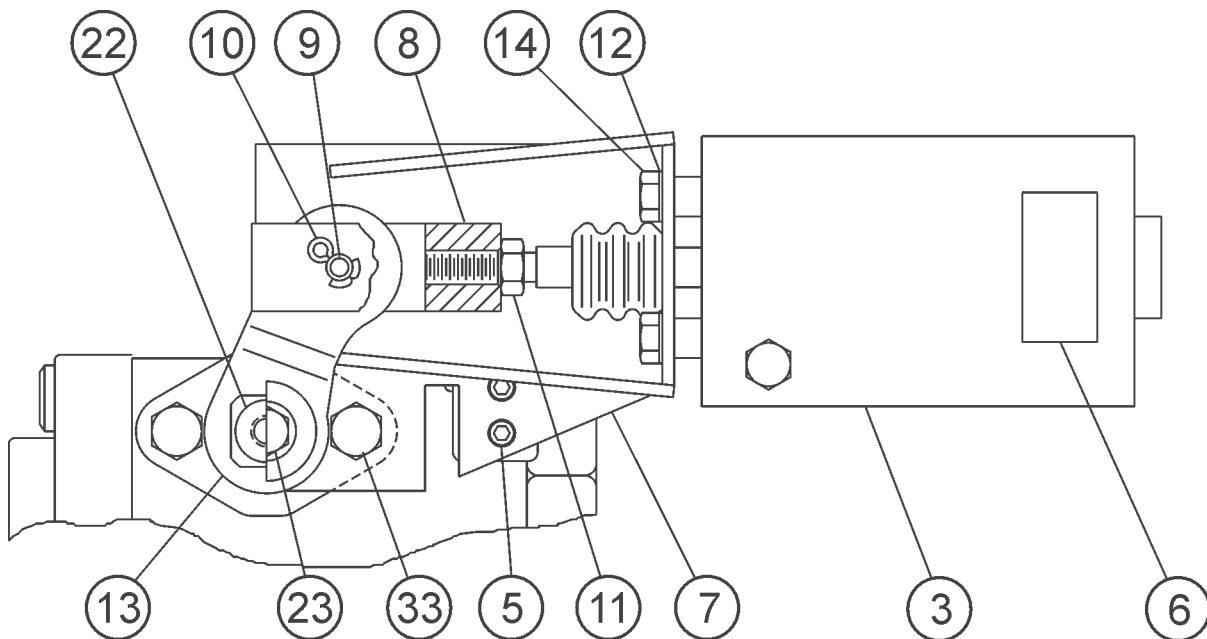

Figure 3. Type P327C Installed on N550
Parts Reference (see Figure 3)
Refer to Figure 3: Place the bracket (7) in position over the rear gland bolt hole and reinstall the rear gland bolt (Key 33) and two mounting bolts (5) where the latch block used to be. **DO NOT OVER TIGHTEN THE GLAND BOLT** because binding of the ESV's shaft could occur. Tighten the gland bolt only enough to prevent leakage.